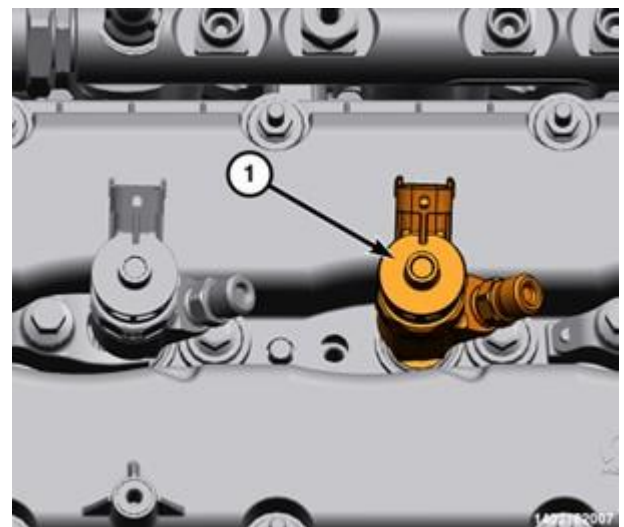

Figure 128 – Fuel Injectors
- 66. Using your hand, pull the fuel injectors (1) straight up from the cylinder head for removal. Discard the lower sealing washer and place a protective cap over the injector bore (Figure 128).